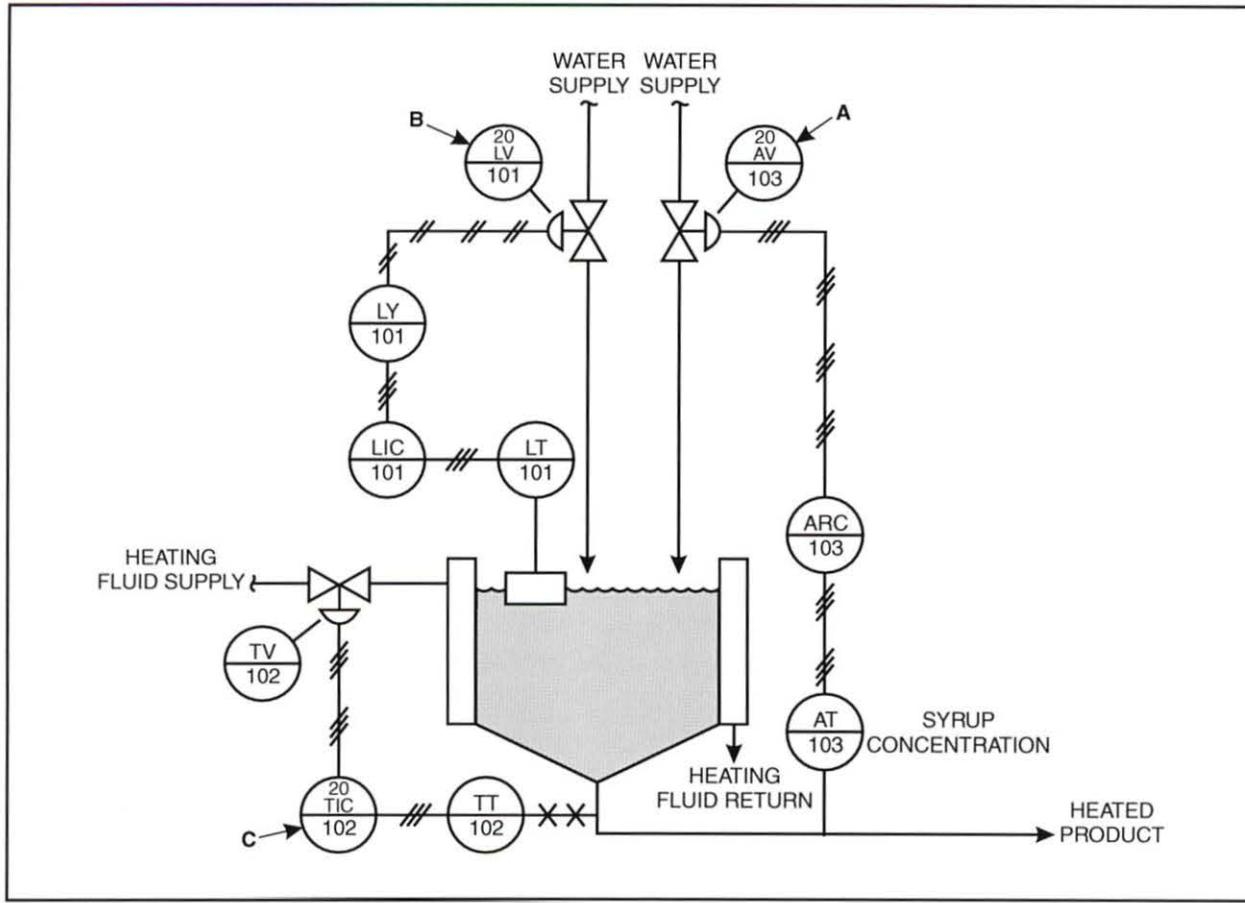

Figure 81. Heating and Mixing System P&ID
8. Determine the loop and area number indicated by each tag shown in figure 81.